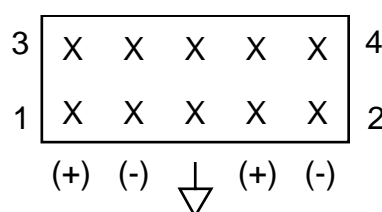

Figure 2-4
1. Audio connections are made possible by the provided terminal blocks (See Figure 2-4). Use 22-18 standard wire (22-18-AWG) to connect between the user's audio equipment and the 300E unit. Use a flat head screwdriver to tighten the terminal screws. Follow the proceeding instructions to install the audio connections.